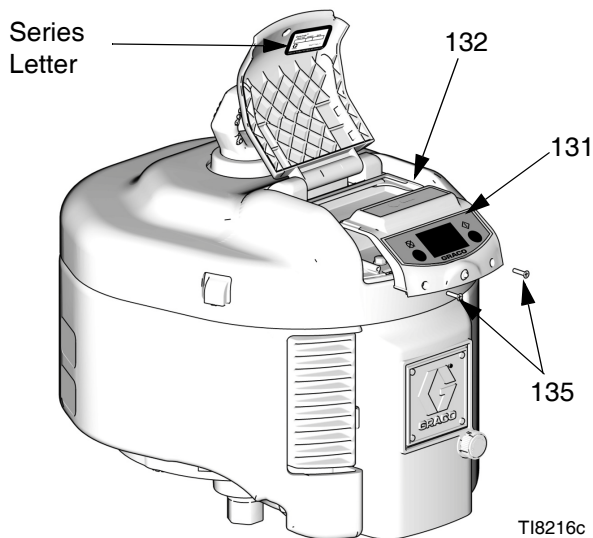

FIG. 4. Remove DataTrak Module
1. Remove two screws (135). Carefully slide the DataTrak module (131) out of the housing (132). See FIG. 4.
* FIG. 4 shows where to find the Series letter.